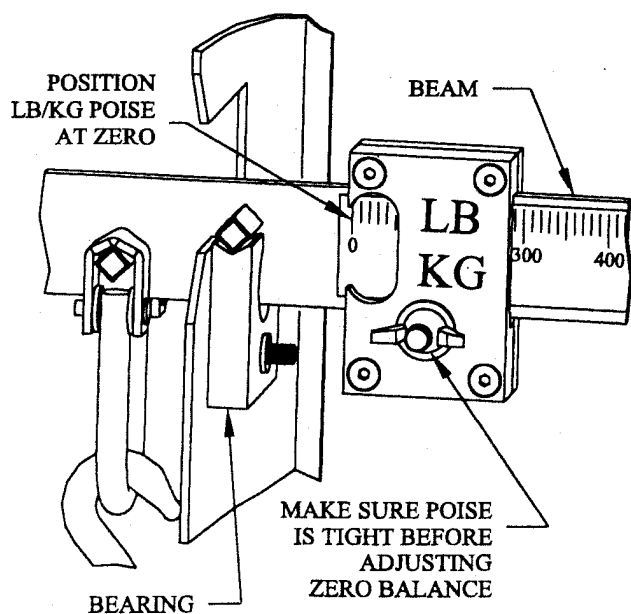
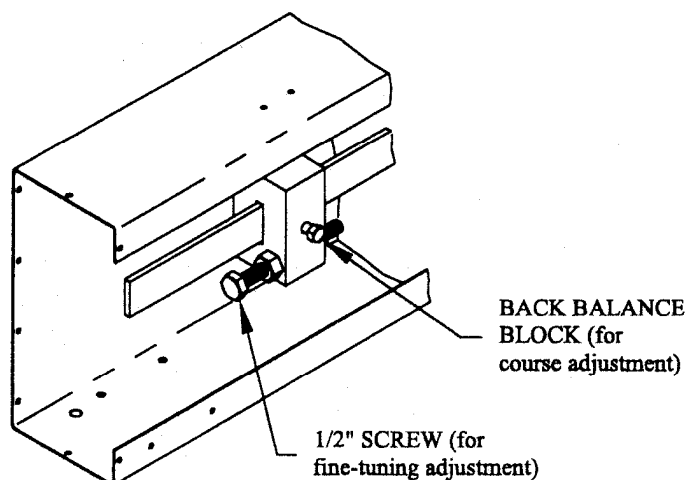

FIG. 8A
FIG. 8B
- Slide the poise to zero on the beam and tighten. See Fig. 8A. Loosen the back balance set screw and move the block forward or backward to get the beam close to balancing. Tighten the set screw. Use the $\frac{1}{2}$ " screw for the final balance. Tighten the $\frac{3}{4}$ " nut. See Fig. 8B. Make sure the beam floats freely and levels back out at zero again. Try this a couple of times.